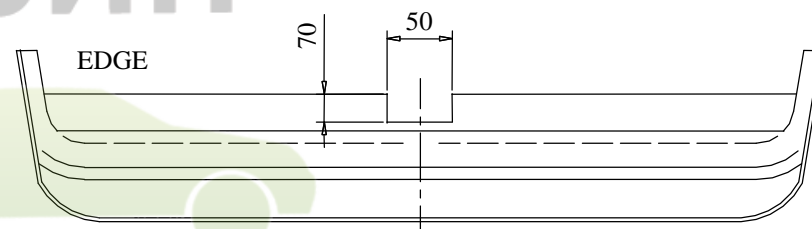

Fig. 2
3. Position the main bar of the towbar (pos. 1) to chassis members and fix it through the original holes using bolts M10x1,25x35mm (pos. 8).
4. Through the hole (pos. A) and original towing eye fix using bolt M12x140mm (pos. 6) together with washers (pos. 5) and distance sleeve $\varnothing 25 \times \varnothing 13 \text{mm}$, L=73mm (pos. 4).
5. Cut the bumper according to the fig.2, then reassemble it.